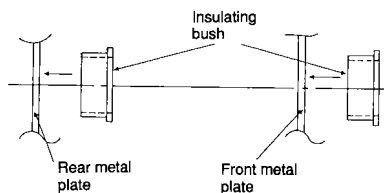

Figure 4-726
- ① If possible, wrap the roller in copy paper to protect its surface from dirt and scratches.
- ② Attach the insulating bush while orienting it as shown in Figure 4-726.